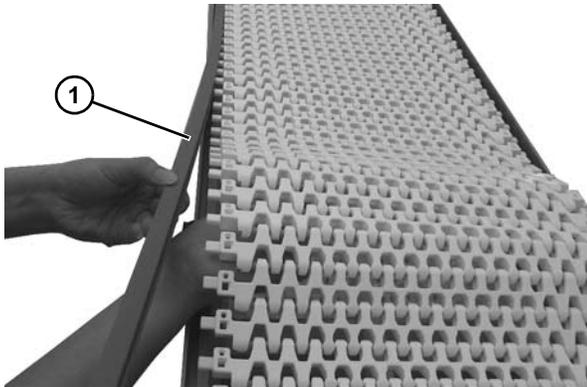

Figure 32
- Lift belt off of frame and remove each edge strip (Figure 32, item 1) from side tabs of belt.